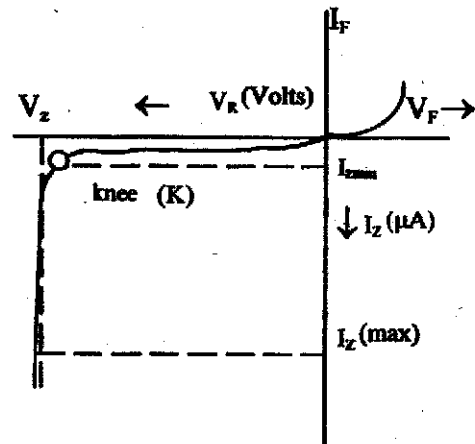

Fig. 34.10: Reverse characteristics of a zener diode
V-I Characteristics: The reverse current due to minority carriers remains negligibly small upto the knee point (K). At this point (K), the breakdown voltage (Zener voltage V_Z) remains practically constant over a range of Zener current values (Fig.34.10).